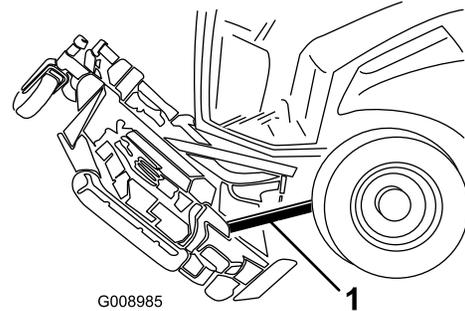

**Figure 136**
4. Remove the hairpin cotter and clevis pin securing the height-of-cut chains to the rear of the cutting unit (Figure 136).